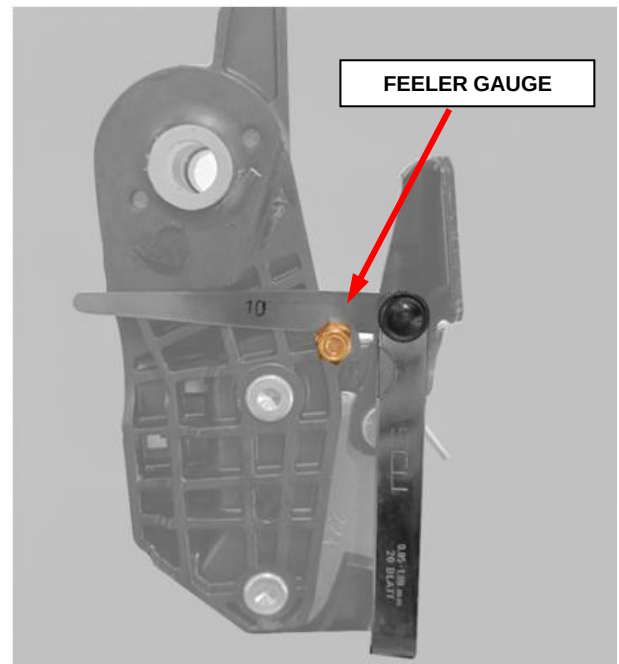

Figure 3 – Feeler Gage
6. Tighten the nut using a **1mm** feeler gauge as shown (Figure 3).